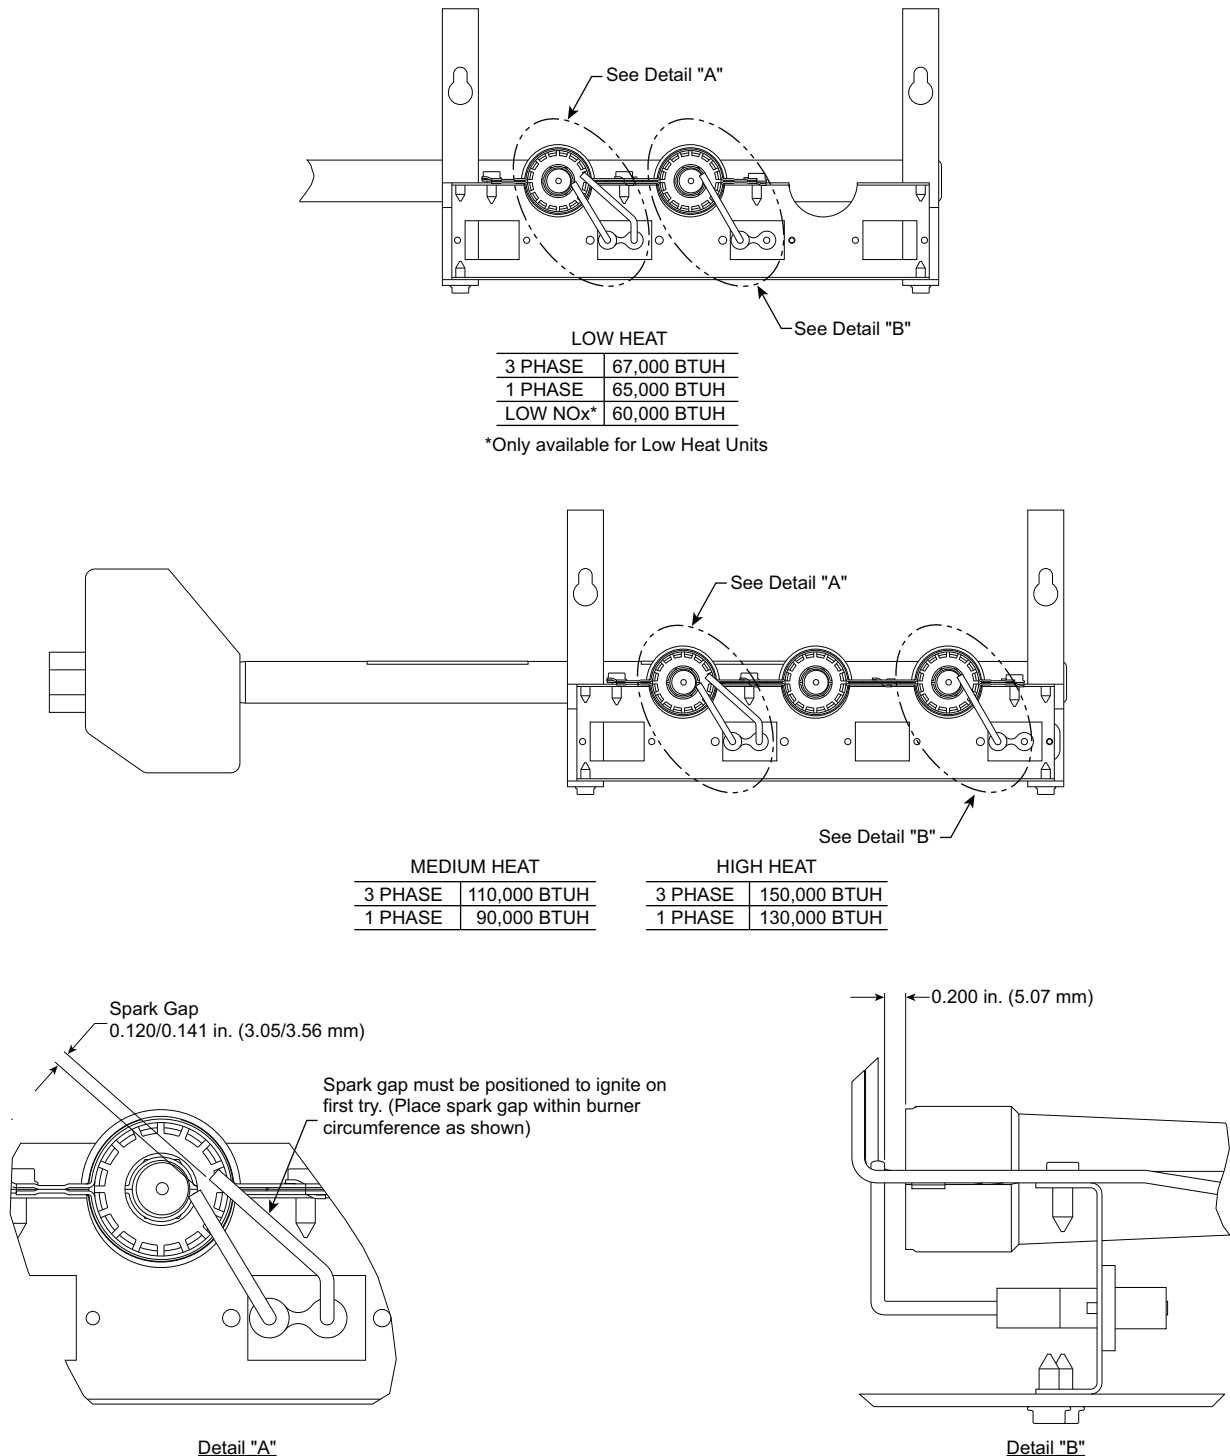

Fig. 55 — Spark Adjustment (Size 04-06)
4. Adjust spark gap. (See Fig. 55.)